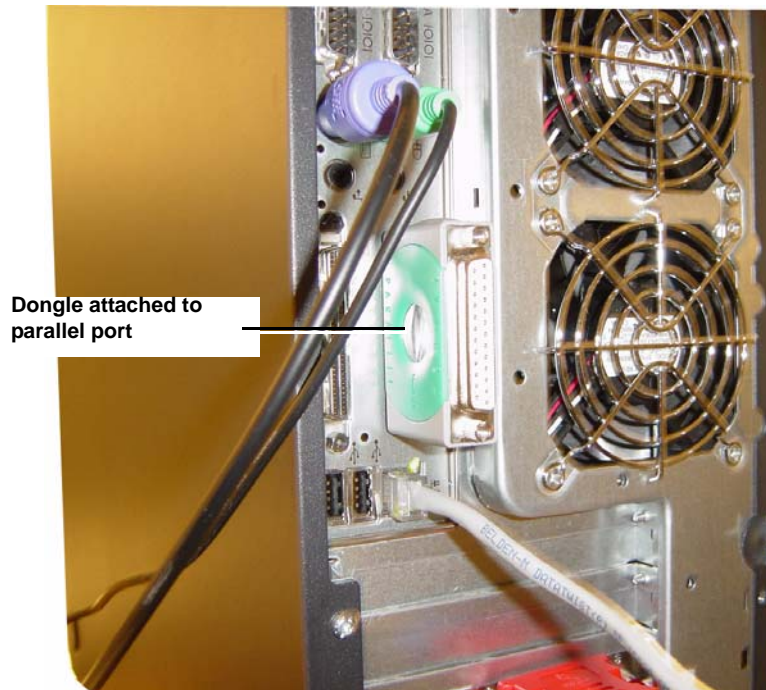

Figure 2-4: Liquid Dongle Parallel Port Placement
- Attach the parallel type of dongle to the parallel port in the back of the Liquid blue client computer as shown in Figure 2-4. Tighten the thumbscrews on the parallel port dongle to ensure that it is attached securely.